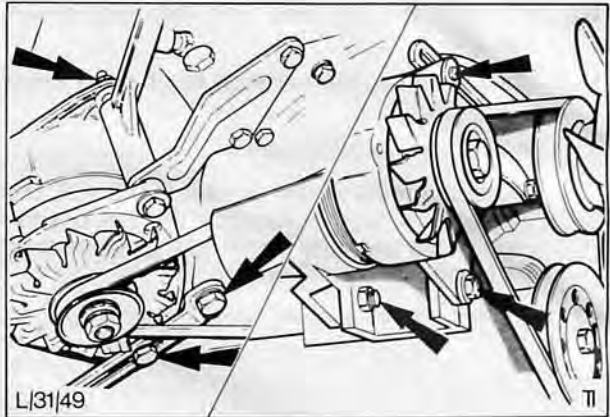

Fig. 38. Alternator mounting bolts
4. Slacken alternator mounting bolts, Fig. 38, and tilt alternator towards engine.